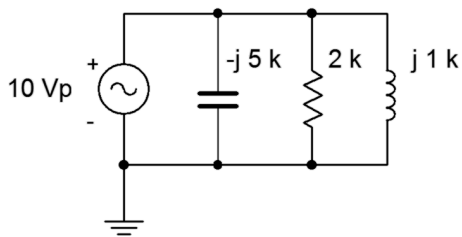

Figure 3.8
13. Determine the four branch currents for the circuit shown in Figure 3.8 and draw their phasor diagram.